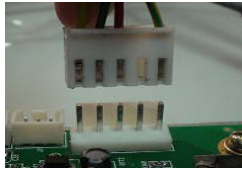

Fig.10
1. The motor power line is connected through a 5PIN interface, and the connection is shown in fig.10.